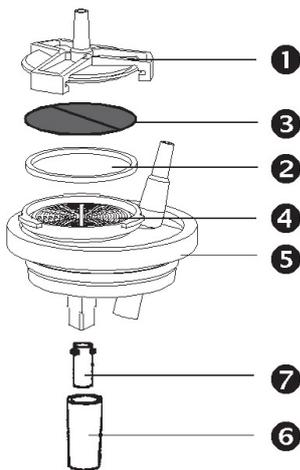

Fig. 8. Collection jar lid
④, Fig. 8 Insert of collection jar lid	320.0011.0
⑤, Fig. 8 Gasket for insert of collection jar lid	320.0013.0
①, Fig. 8 Bacterial filter cover	320.0012.0
⑥, Fig. 8 Sleeve of overflow safety.....	320.0010.0
⑦, Fig. 8 Float.....	320.0015.0
③, Fig. 8 Disposable bacterial filter plates, 25 pcs.	320.0065.0
③, Fig. 8 Disposable bacterial filter plates, 100 pcs.	320.0066.0
②, Fig. 8 Gasket for filter cover.....	320.0016.0